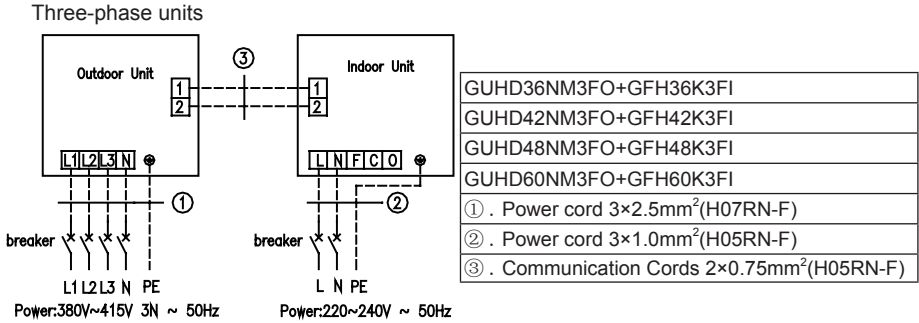

Fig.42
- ⑦ . Connect the indoor unit connection cord properly based on the corresponding marks as shown in Fig.42.
- ⑧ . Ground both the indoor and outdoor units by attaching a ground wire.
- ⑨ . Unit shall be grounded in compliance with the applicable local and national codes.